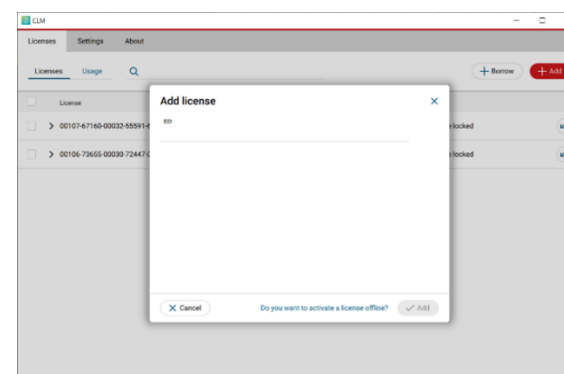

Fig. 2 License activation window
3. Add the 25-digit code relating to the software (or plugin) to be activated, in the space indicated in Fig. 2